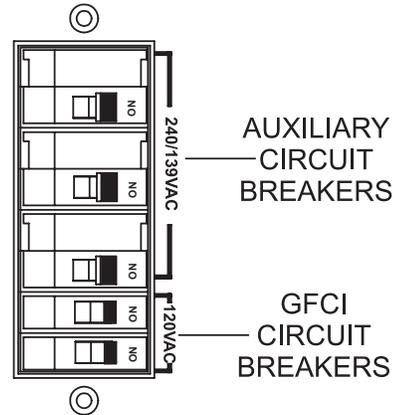

Figure 61. GFCI And Auxiliary Circuit Breakers (ON)
- Place the **GFCI and auxiliary circuit breakers** (Figure 61) in the **ON** position to send power to the GFCI (120V) and auxiliary (dual-voltage) receptacles.